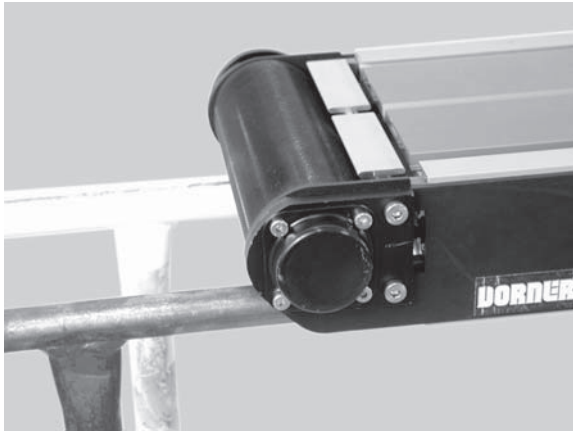

**Figure 57**
- d. Remove the four (4) lock screws (Figure 57, item BW) and the short side drive guard (BY).